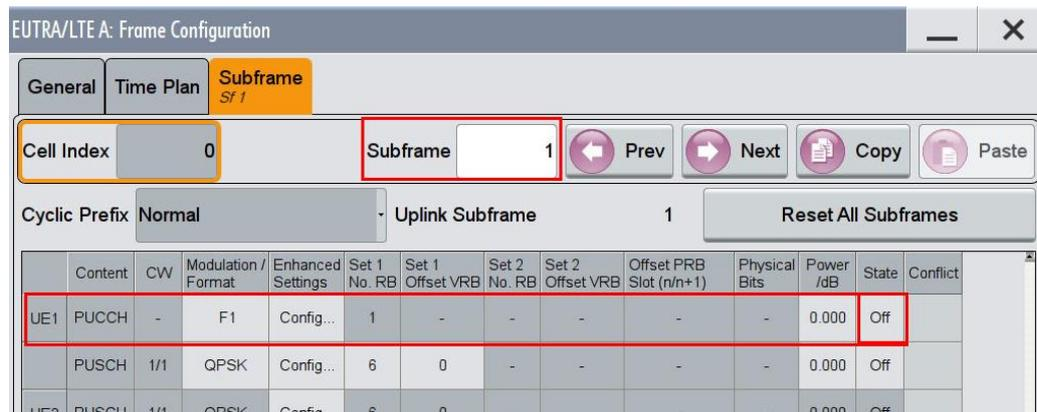

Fig. 3-150: In the second configurable subframe (subframe #1) the PUCCH is not transmitted (state Off)
13. Make sure that the PUCCH in the second configurable subframe is not transmitted. (example: subframe 1 **State Off**) (Fig. 3-150)